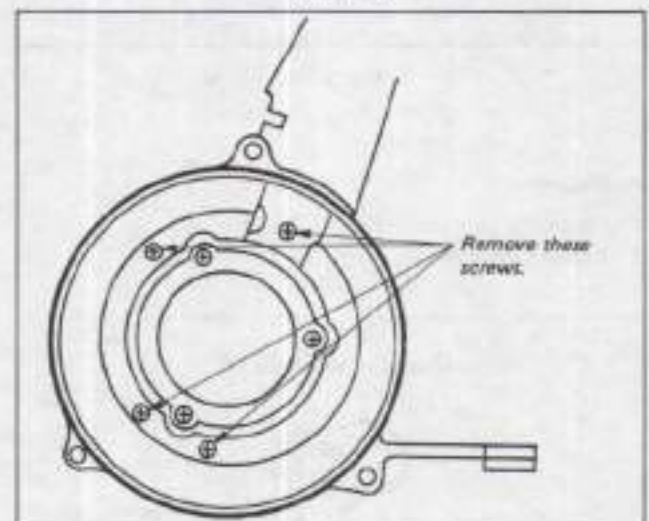

Fig. 2-41
- 4) Remove the screw holding the middle lens barrel and the middle lens barrel. (Fig. 2-41)